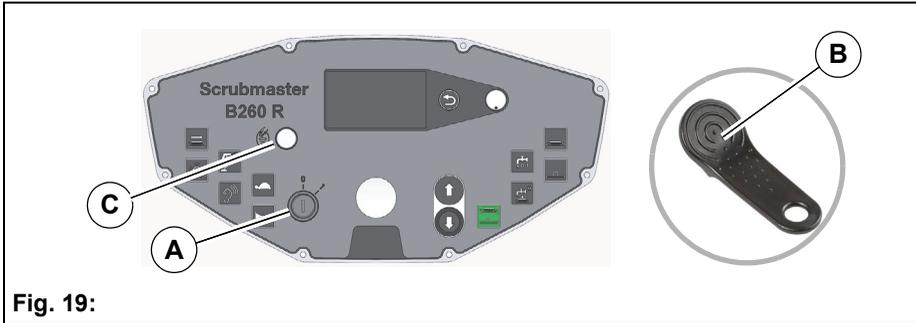

Fig. 19:
1. Turn the machine on with the key switch **Fig. 19-A**.
2. Press the I-Button **Fig. 19-B** for one to two seconds against the I-Button Reader **Fig. 19-C**.